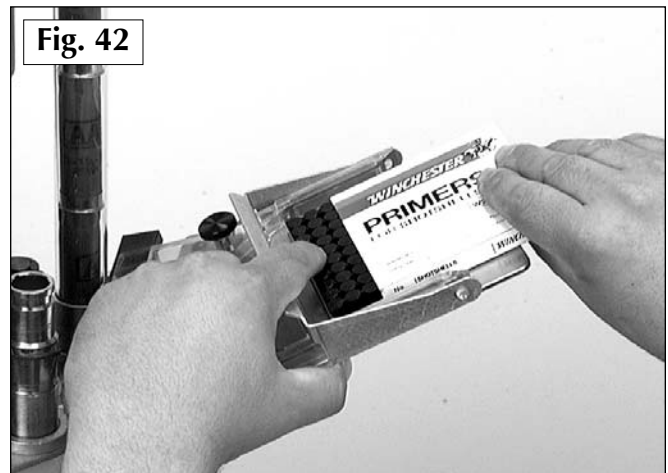

Fig. 42
9. Slide the cardboard jacket off. Helpful hint – as you slide the cardboard jacket off, place your left-hand index finger on the primer tray and press down as you slide the jacket off. **Fig. 42**